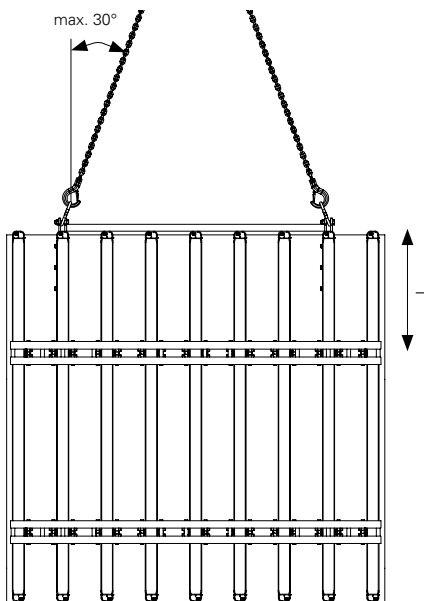

Fig. 1
- Always attach two Crane Hooks-2 VT 20 symmetrically to the load centre of gravity! (Fig. 1)